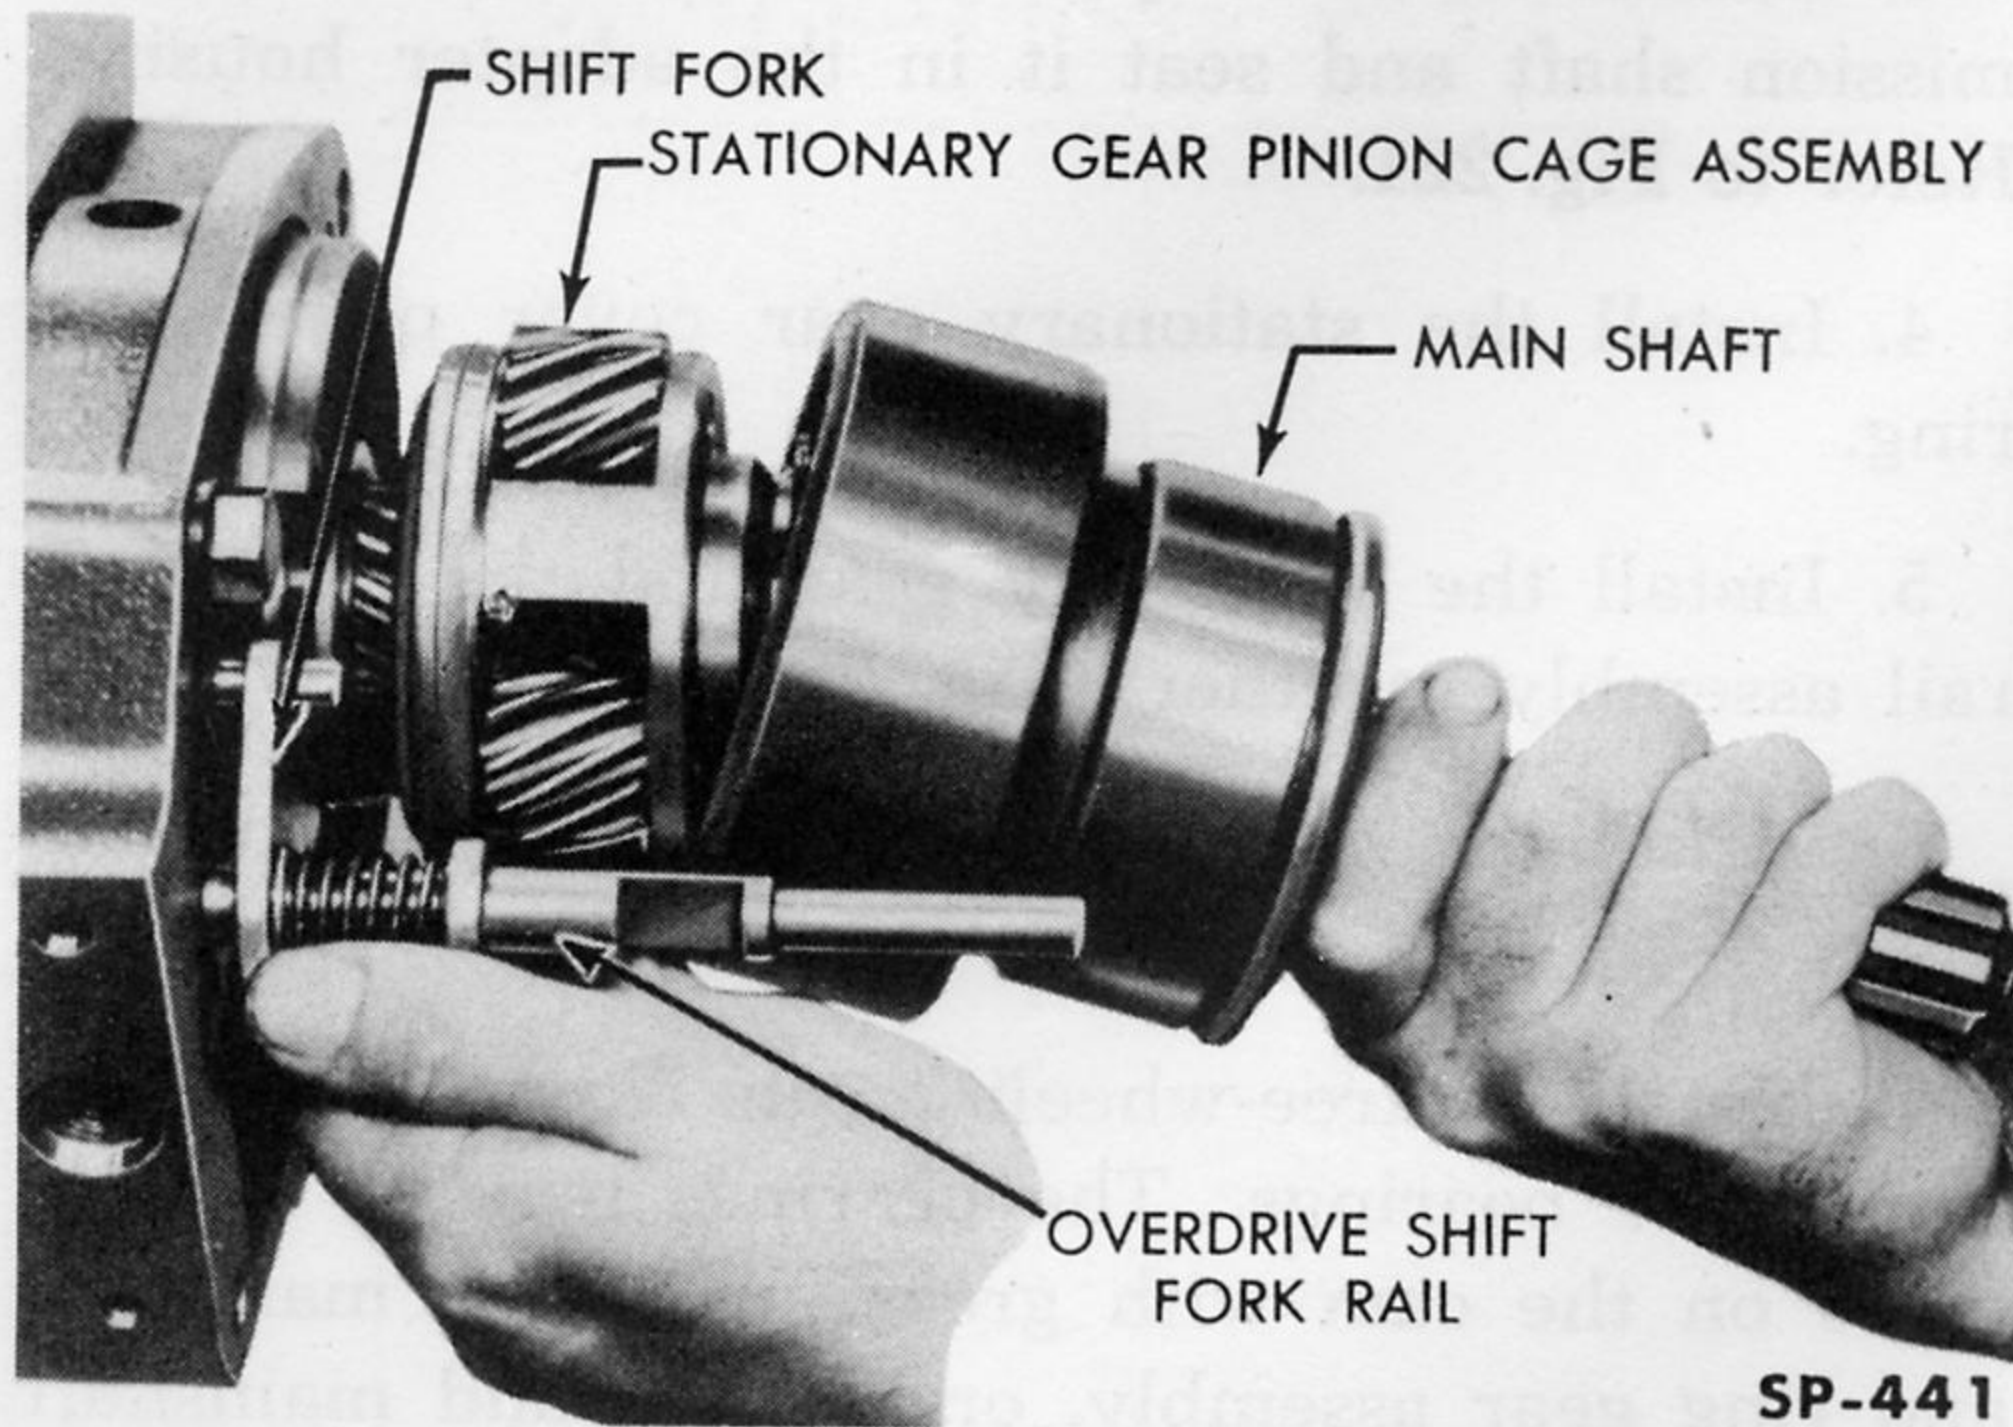

Fig. 223—Installing Mainshaft And Ring Gear—Frazer
8. Remove the one bolt from the overdrive housing adapter. Move the shift fork rail to the unlocked position so that the gears in the pinion cage assembly are free to rotate. Place a new gasket on the overdrive housing adapter, using grease to hold it in place. On a Frazer, install the mainshaft and ring gear assembly, or housing and mainshaft if working on a Kaiser, slowly rotating the mainshaft counterclockwise until the pinion cage gears are fully engaged (Fig. 223). On a Frazer, install the overdrive housing.